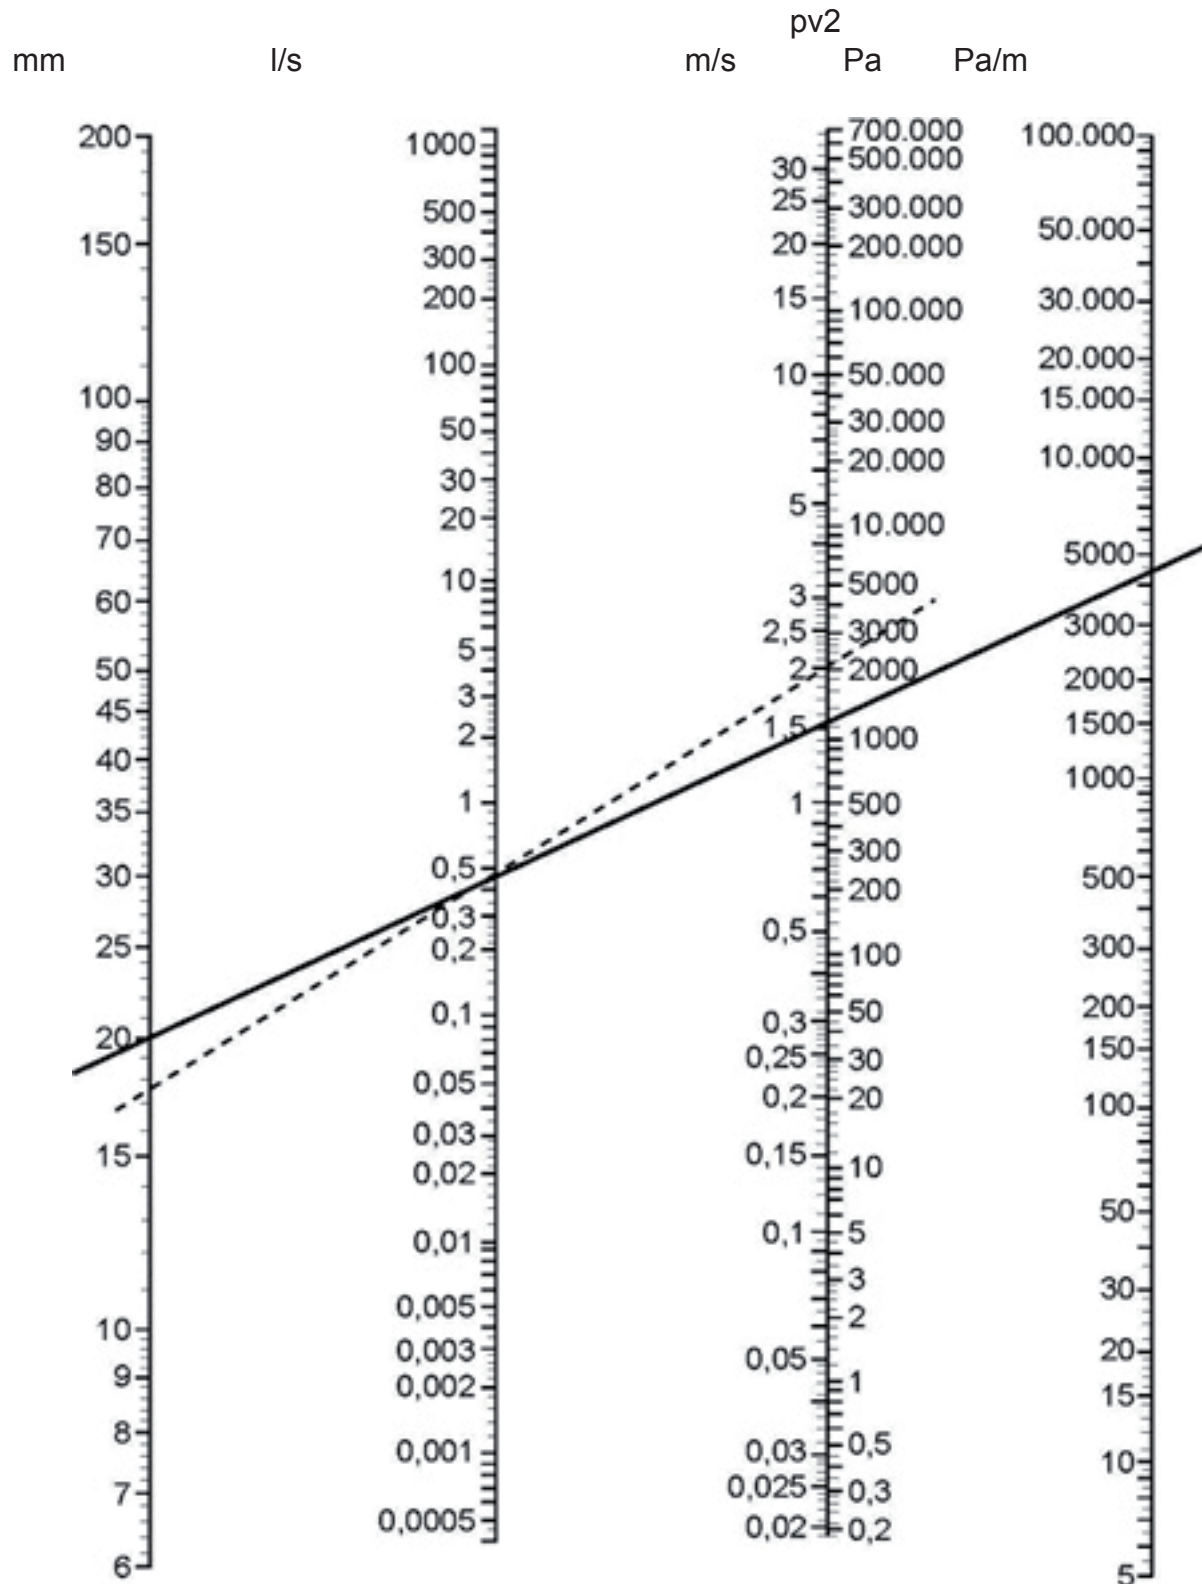
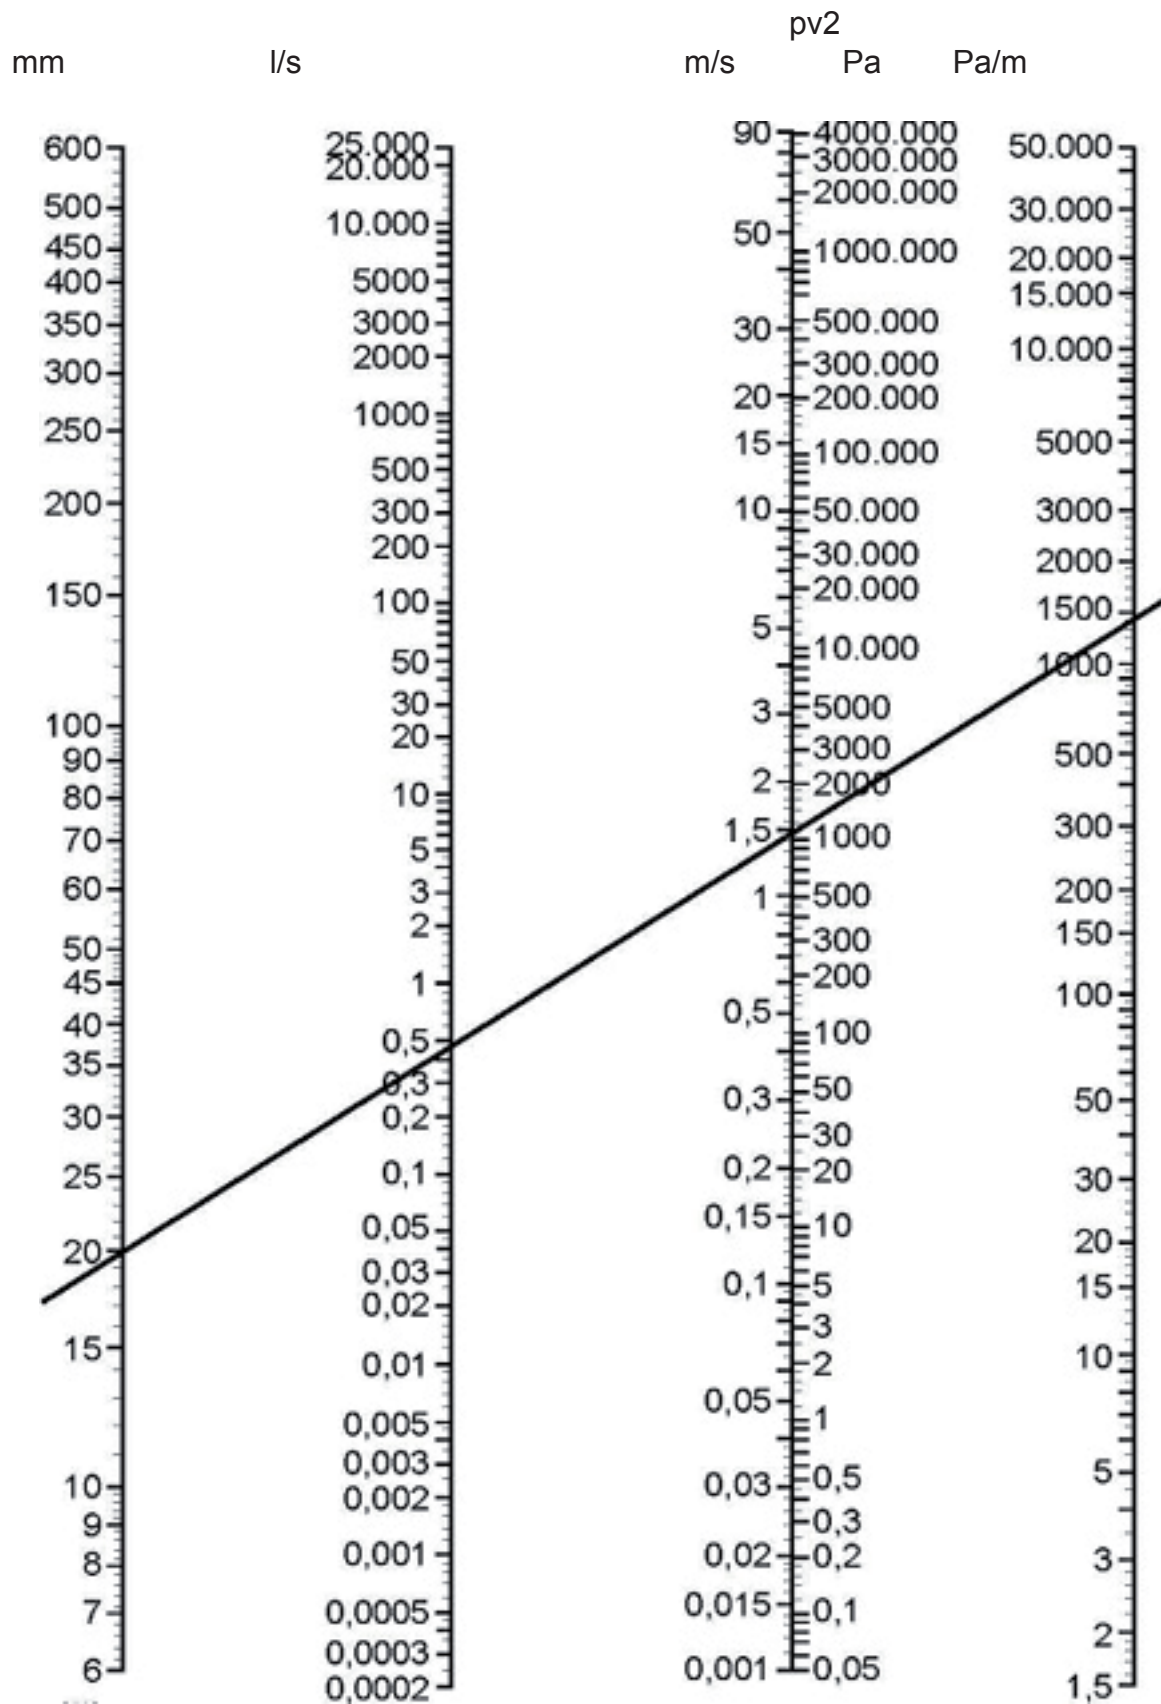
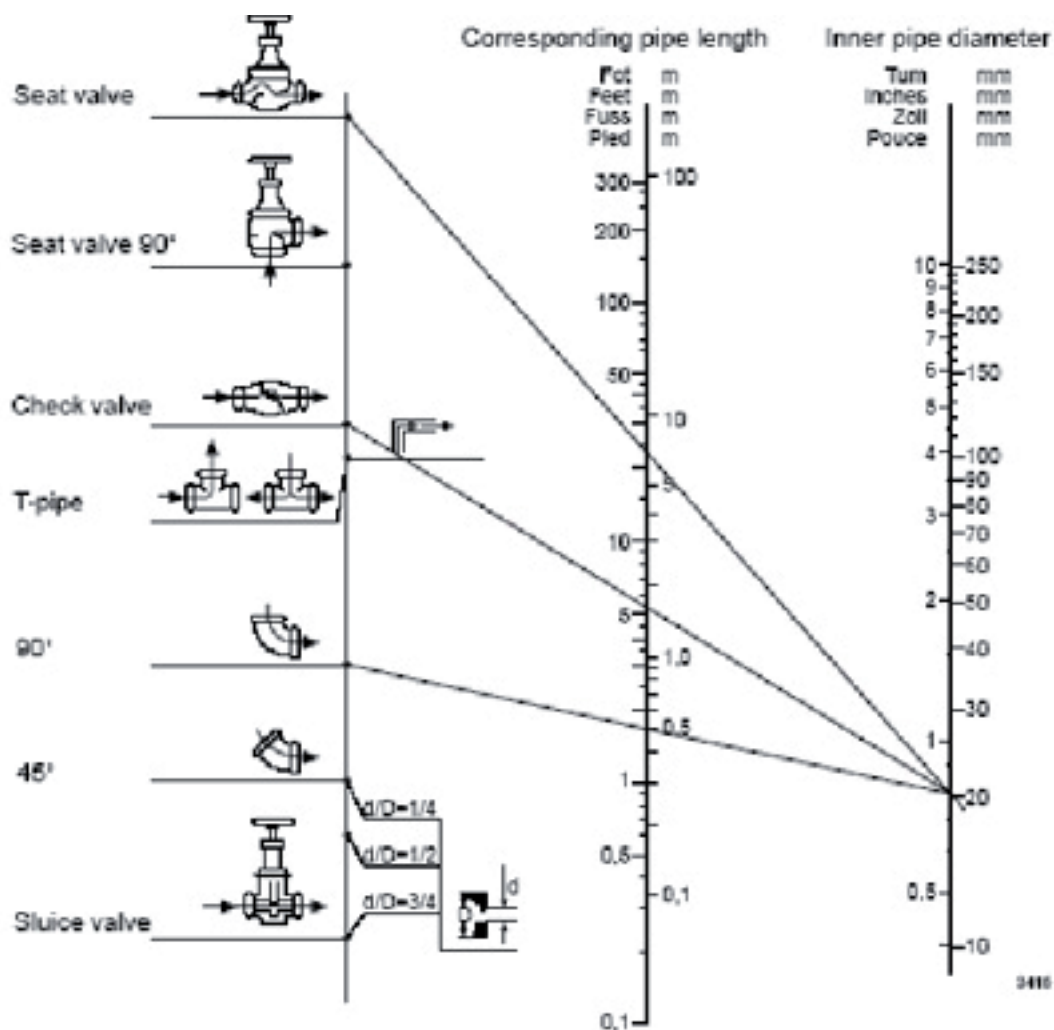

Figure 14. Pressure drop in galvanised steel pipes with deposits.
Figure 15. Pressure drop in plastic pipes.
Figure 16. Pressure drop in valves and pipe elbows.
Use a nomogram for galvanized steel pipes (figure 14) to decide the drop in pressure due to friction.
- Use the nomograms for drop of pressure due to friction in plastic pipes (figure 15), drop of pressure in valves and pipe elbows (figure 16) and drop of pressure in galvanised steel pipes (figure 14). Draw a line in each respective monogram. i.e. for plastic pipes and galvanised steel pipes, draw an unbroken line through the inner diameter 20 mm and flow 0.45 l/sec., then read the pressure losses and the dynamic drop of pressure. Plastic pipe = 1450 Pa/m; Steel pipe = 4500 Pa/m; Dynamic drop of pressure 1200 Pa